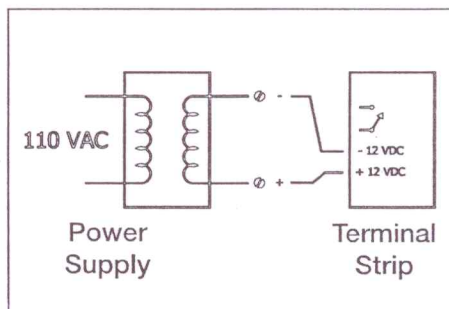

Figure 10
7. Install wiring (The wire is installer supplied. Thermostat wire is acceptable) between the green circuit board connector and the Power Supply, observing polarity, as shown on both the power module and the control panel. [+ to + and - to -] **Figure 10**